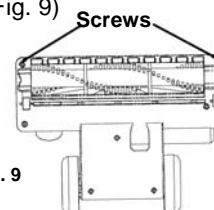

Fig. 9
3. Use a Phillips #1 screwdriver and remove the two (2) front screws from the bottom of the motorized floor brush. (Fig. 9)